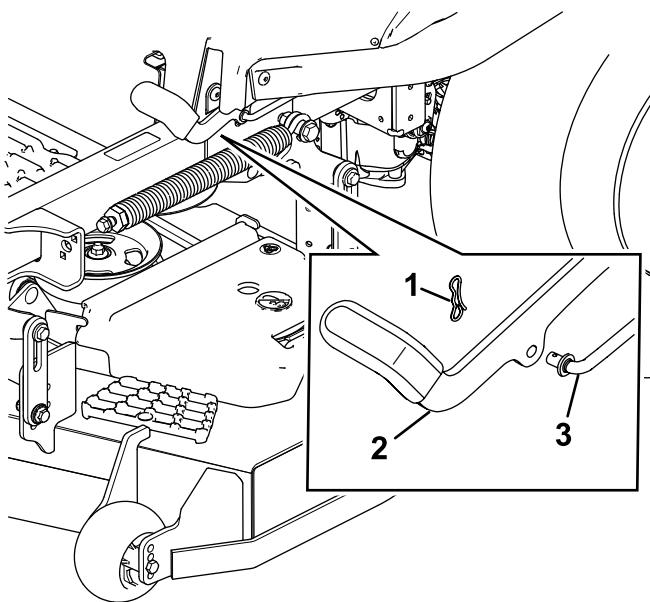

Figure 60
6. If an adjustment is necessary, disengage the parking brake. Remove the cotter pin from the brake linkage shaft (Figure 60).